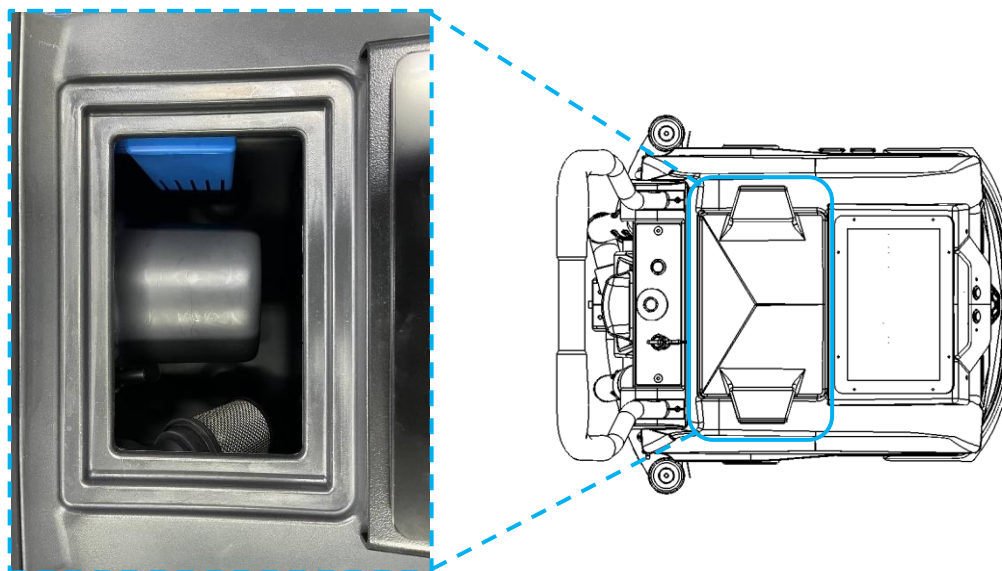

Fig. 2
3. Remove the top hatch (Fig. 2) and carefully store it.